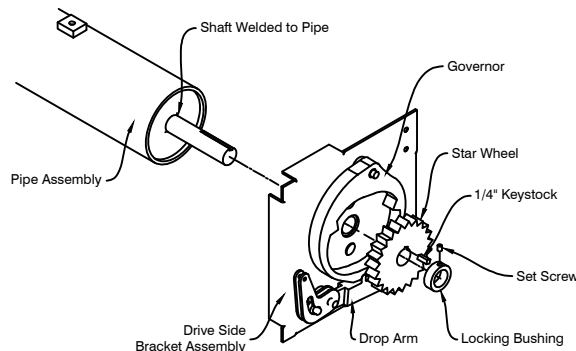

Fig. 9
**a) Push-up operation - Assemble the drive (governor) bracket on the drive side shaft of the pipe assembly (drive side is the side with the shaft welded to the pipe) as shown in Fig. 9. Align the star gear with the governor. Insert the key stock and lock all set screws in place. NOTE: Brackets are shown as right hand drive, left hand drive is opposite. \*Doors under 4'-0" high are not supplied with a governor.**